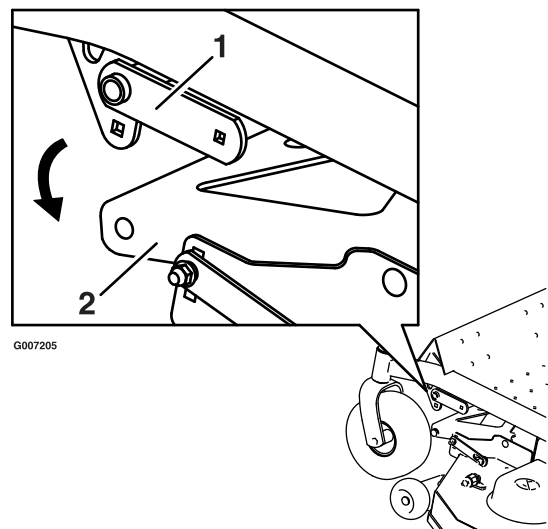
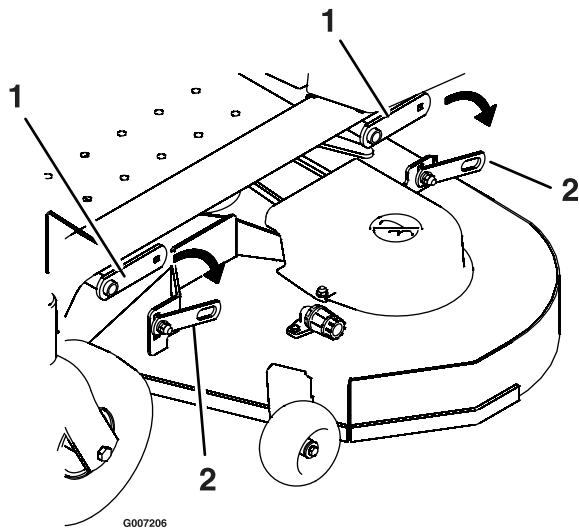

Figure 53
Figure 54
4. Remove the hardware from the deck hanger and deck lift arm on both sides of the deck (Figure 53).
- Remove the nut, bolt, and pivot bushing from the deck strut (Figure 53). Carefully lower the front of the mower deck to the ground (Figure 54).
- Use the existing hardware to attach the rear deck strut of the mower to the deck lift arm (Figure 54).
- Attach the hardware from the deck hanger and deck lift arm on both sides of the deck (Figure 53).